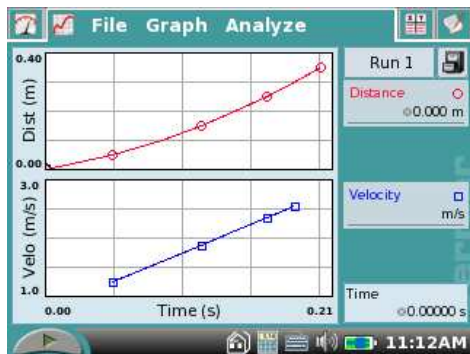

Fig. 1
2. Examine the velocity vs. time (bottom) graph (Fig.1).